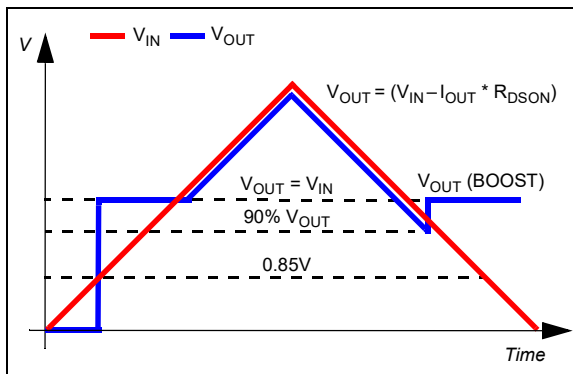

**FIGURE 5-4:** PGT Output Response.
- $V_{OUT}$  is below 90% of regulated value; there is a 5% hysteresis. It resumes when  $V_{OUT}$  gets back to 95% of its nominal value. A 250 microsecond delay is needed for a valid signal (see Figure 5-4).